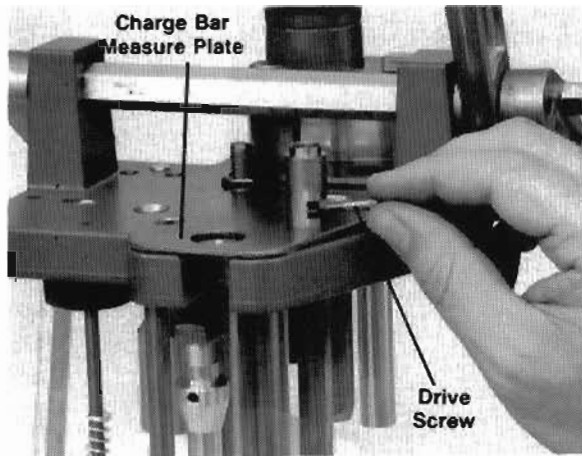

Fig. 63
**Figure 63** - Replace the charge bar measure plates over the rods and tighten the mounting bolts back into the diehead. Thread the drive screws into the charge bar rods until no threads show BUT DO NOT TIGHTEN.